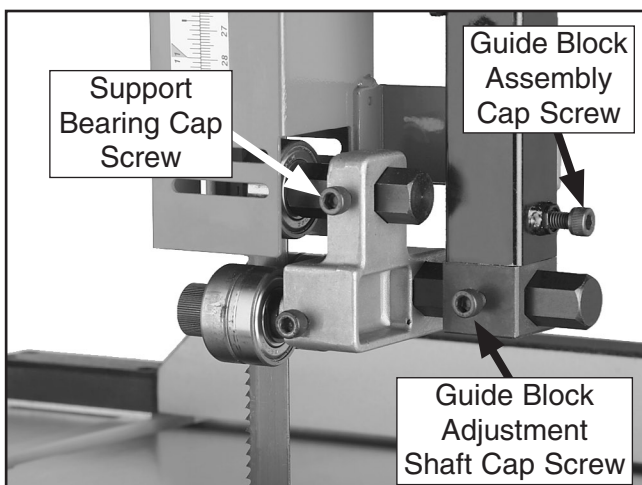

Figure 24. Upper support bearing controls.
3. Familiarize yourself with the upper support bearing controls shown in **Figure 24**.